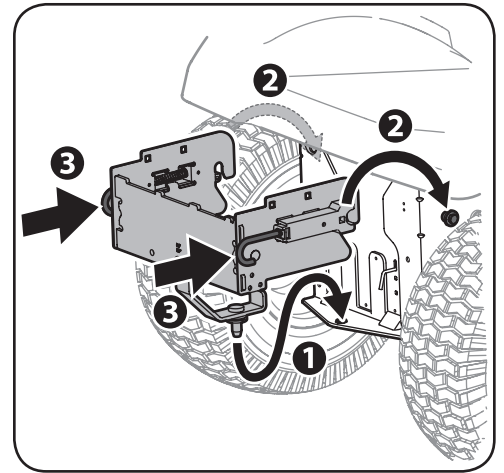

Figure 2-5
3. Slip the pin at the bottom of the bracket support assembly into the hitch adapter on the rear of the mower frame at a slight angle. See 1 in Figure 2-5.
4. Ease the hitch bracket assembly forward over the shoulder bolts on the sides of the mower frame. See 2 in Figure 2-5.
5. Release the j-pins from the rear of the bracket assembly. See 3 in Figure 2-5.